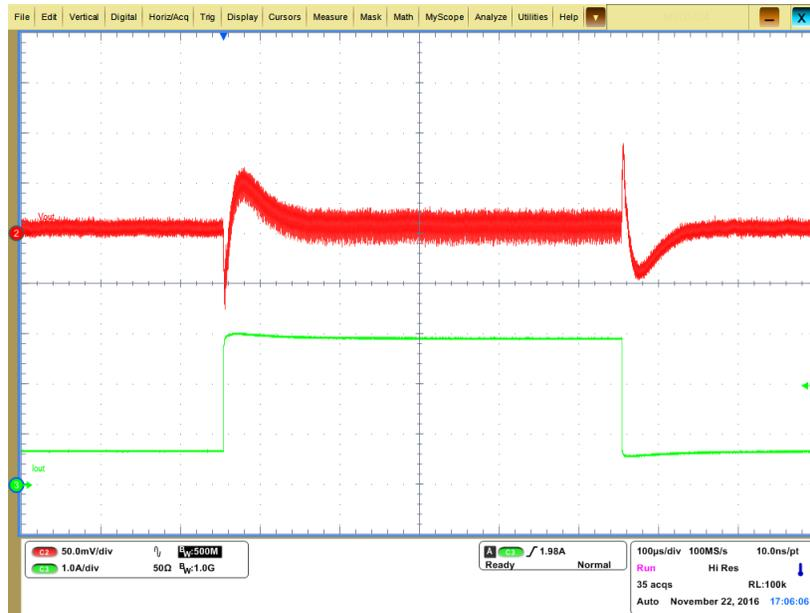

Figure 19. Transient Response Waveform, SMPS3
- Load starts at 600 mA, goes to 3 A, then returns to 600 mA (Figure 19)